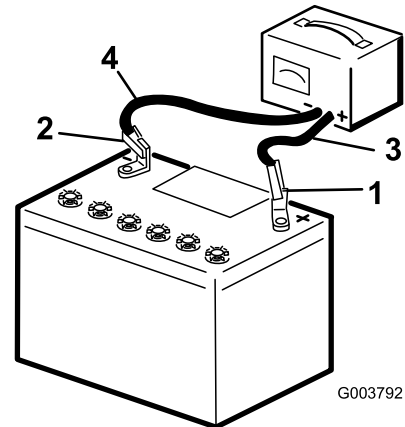

Figure 44
2. Charge the battery at a rate of 3 to 4 A for 4 to 8 hours (Figure 44). Do not overcharge the battery.
3. When the battery is fully charged, unplug the charger from the electrical outlet, then disconnect the charger leads from the battery posts (Figure 44).